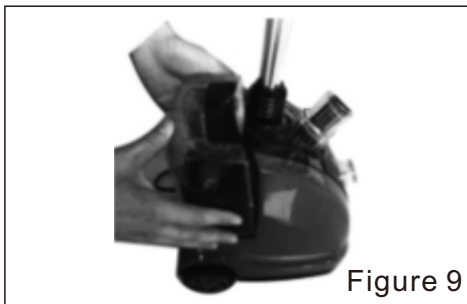

Figure 9
- ⑧ Put the water tank on the main body as shown in Figure 9.